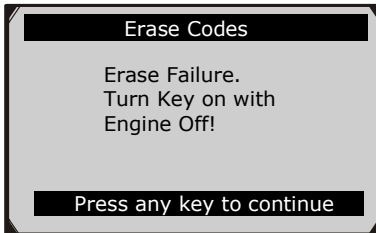

Figure 5.8
- If the codes are not cleared, then an “Erase Failure. Turn Key on with Engine off!” message appears. (Figure 5.8)